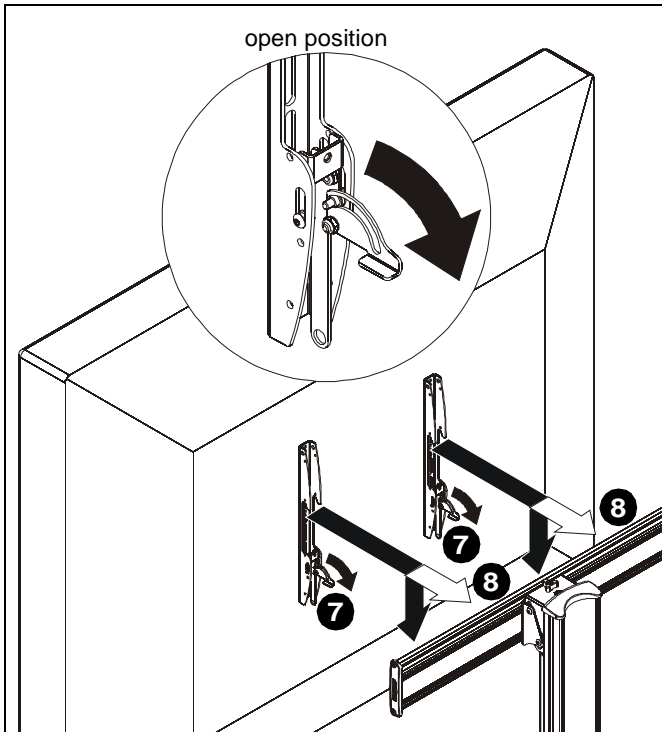

Figure 6
7. Position latches on interface uprights so that they are in the "open" position. (See Figure 6)
8. Hang interface uprights (B) on interface head assembly (E). (See Figure 6)